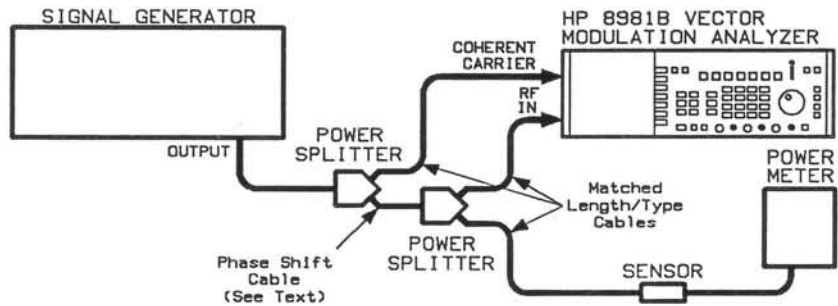

Figure 4-12. Input Frequency Range Test Setup
2. Connect the equipment as shown in Figure 4-12. Since a difference in path length will introduce phase and amplitude errors, the cables connected to the COHERENT CARRIER connector, RF IN connector and power sensor should be of the same type (BNC or type N) and be within a few centimeters of the same length.